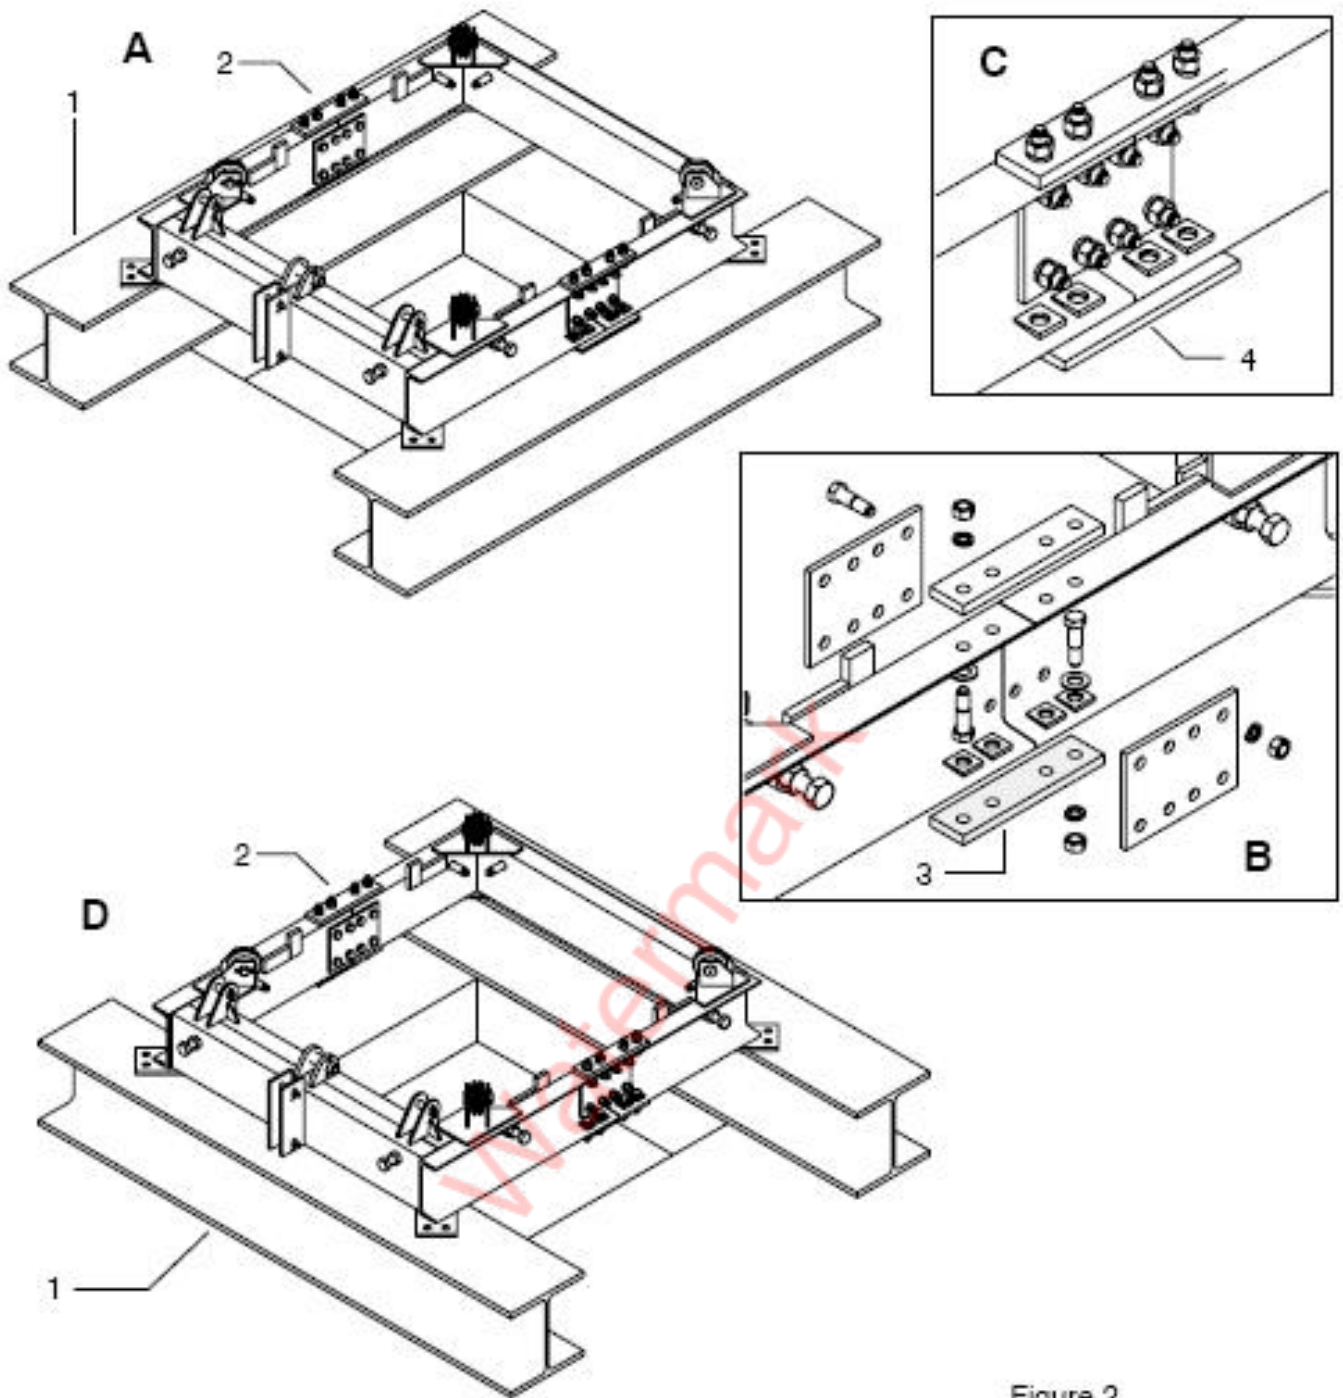

Figure 2
○ The beams (1) are placed under the fishplatings (2) (Detail A – Figure 2). The lower fishplates (3) are suppressed (Detail B – Figure 2), a wedging (4) under the fishplatings compensates the thickness of the collar gussets (Detail C – Figure 2).
○ The beams (1) are placed in the opposite direction to the fishplatings (2) (Detail D – Figure 2). The fishplatings are complete with the lower fishplates (3) (Detail B – Figure 2).